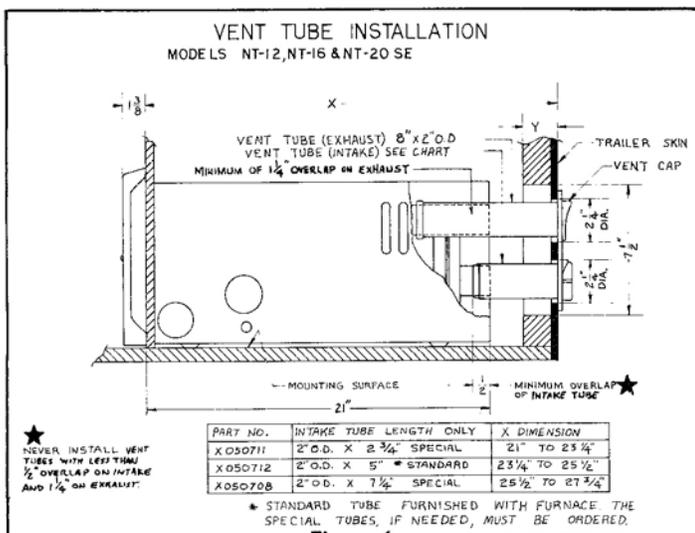

Figure 1
These furnaces will accommodate an installation depth from 21" to 27-3/4", depending on the intake vent tube length you select. (See Figure 1.)
The furnace cabinet must extend through the coach cabinetry 1-3/8" as shown in Figure 1. The 1-3/8" extension must be held in order to assure that the front grille will properly attach to the furnace cabinet. Adequate clearances must be maintained around furnace cabinet so that the unit will be accessible for servicing.
6. Determine "X" dimension as shown in Figure 1.
7. Determine "Y" dimension as shown in Figure 1.
10. Refer to the chart in Figure 1 and select the range for which the "X" dimension falls. The intake tube length directly to the left of the selected range is the length required. NOTE: The 7-3/4" length exhaust tube assembly will accommodate all approved installation depths - only the intake tube must be ordered when needed. Under no circumstances should the standard 5" intake tube be cut or altered to adapt to the 21" - 23-1/4" range.
CAUTION: The exhaust tube must overlap a minimum of 1-1/4" and the intake tube must overlap a minimum of 1/2" to insure safe operation (see Figure 1). All air for combustion must be drawn from the outside atmosphere. Combustion air must not be drawn from the living area. All exhaust gases must be vented to the outside atmosphere; therefore, insure that the vent cap and tube assemblies have been properly installed.